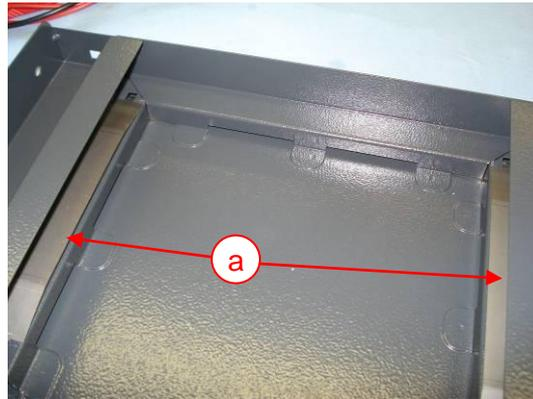

Fig. 9 – Flat spring for firebrick
- Check the flat springs (Fig. 9 a) for correct seating.